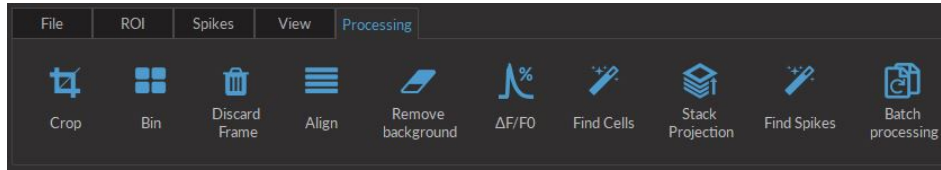

Figure 3.32: *Processing Tab*
5. The **Processing tab** (Fig. 3.32) is used to process the image data.